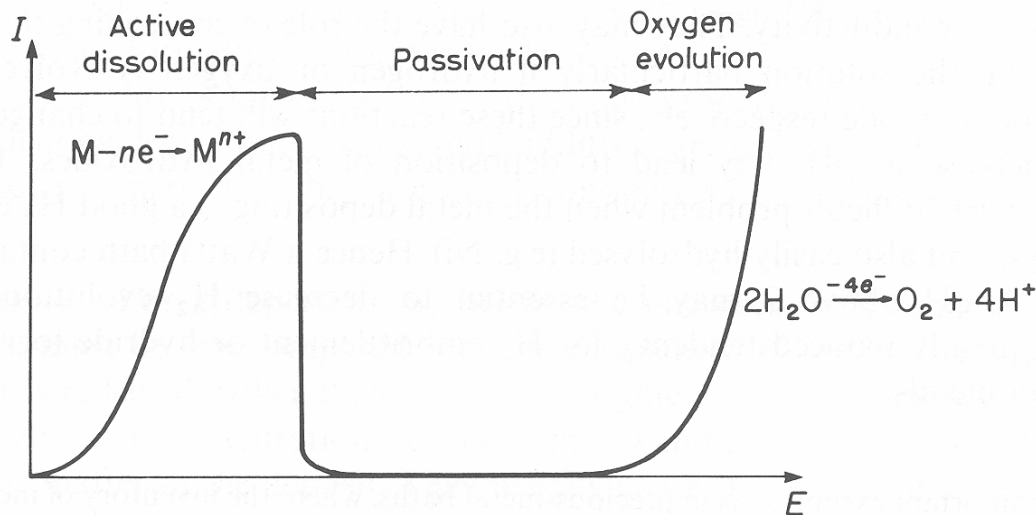

Fig. 8.11 Typical current-potential curve for an anode in an electroplating bath.
- From Fig. 8.11, in a plating process, it is essential to maintain the anode potential in the active region to ensure smooth and uniform dissolution (maintaining a suitable low current density)